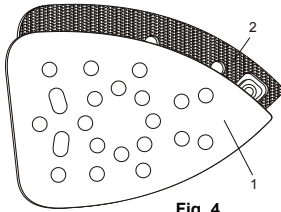

Fig. 4
Firmly press the sandpaper (1) onto the hook & loop pad (2) (Fig. 4).